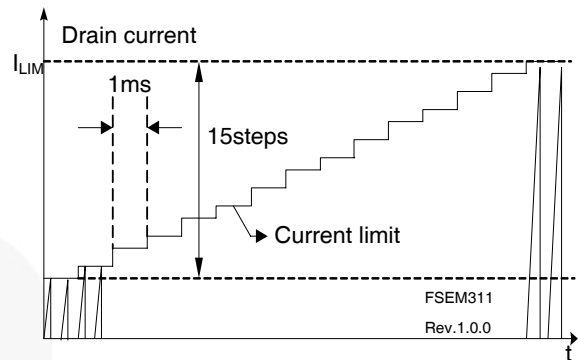

**Figure 17. Over Load Protection (OLP)**
**4.1 Over Load Protection (OLP):** Overload is defined as the load current exceeding a pre-set level due to an unexpected event. In this situation, the protection circuit should be activated in order to protect the SMPS. However, even when the SMPS is operating normally, the over load protection (OLP) circuit can be activated during the load transition. In order to avoid this undesired operation, the OLP circuit is designed to be activated after a specified time to determine whether it is a transient situation or an overload situation. In conjunction with the  $I_{PK}$  current limit pin (if used) the current mode feedback path would limit the current in the Sense FET when the maximum PWM duty cycle is attained. If the output consumes more than this maximum power, the output voltage ( $V_o$ ) decreases below its rating voltage. This reduces the current through the opto-coupler LED, which also reduces the feedback voltage ( $V_{FB}$ ). If  $V_{FB}$  exceeds 3V, the feedback input diode is blocked and the 5 $\mu$ A current source ( $I_{DELAY}$ ) starts to charge  $C_{FB}$  slowly up to  $V_{CC}$ . In this condition,  $V_{FB}$  increases until it reaches 6V, when the switching operation is terminated as shown in Figure 17. The shutdown delay time is the time required to charge  $C_{FB}$  from 3V to 6V with 5 $\mu$ A current source.